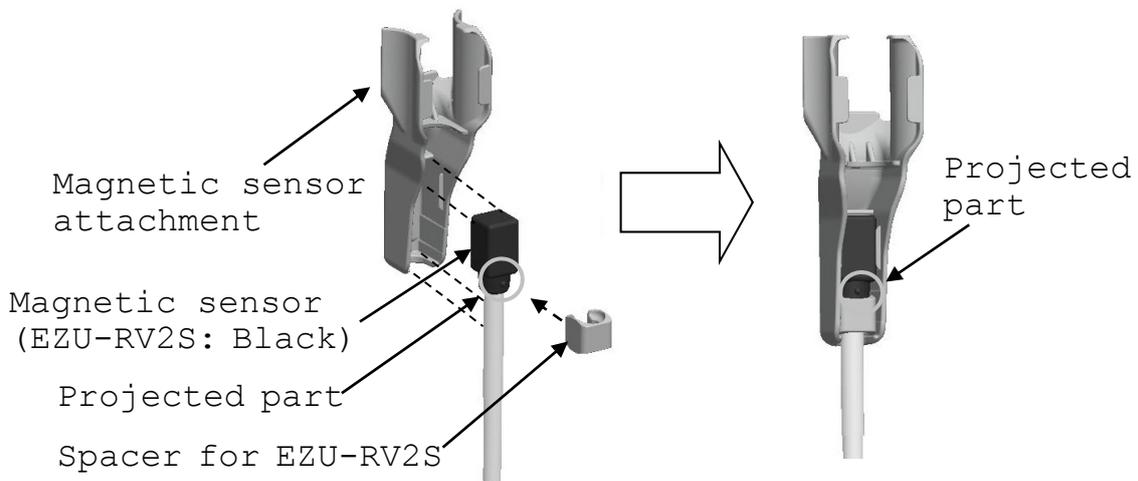

Fig.4 How to attach the Magnetic sensor
- a) Attach the Spacer for EZU-RV2S to Magnetic sensor. Then insert Magnetic sensor into the Magnetic sensor attachment with the correct direction as shown in Fig.4.